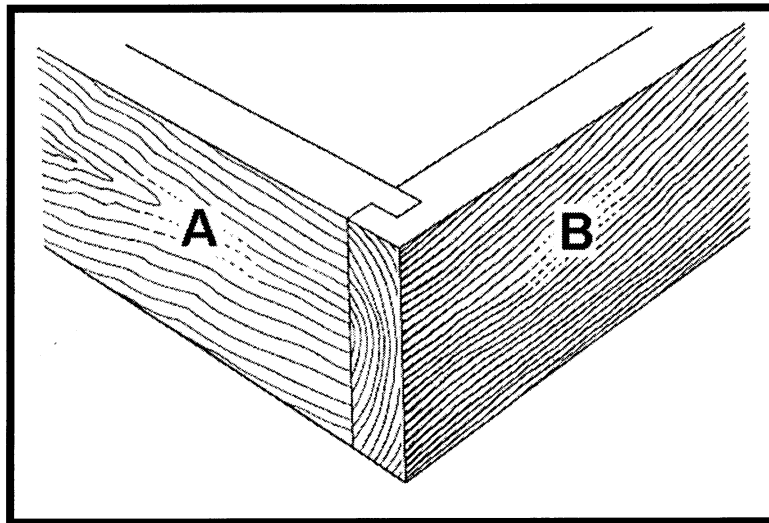

Figure 3.5
3.5 **Figure 3.5** shows a tongue and groove joint.